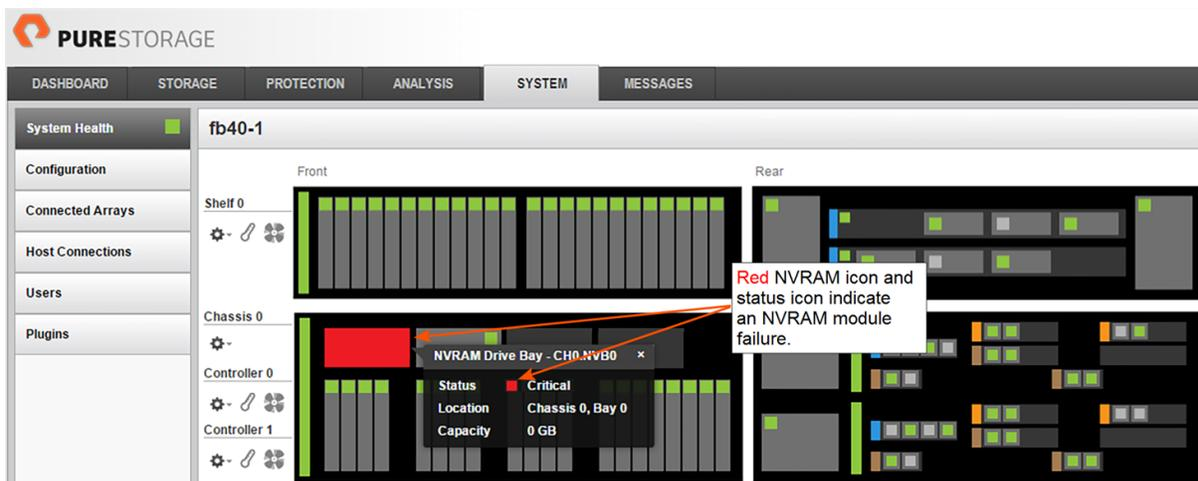

Figure 8-2. GUI Indication of NVRAM Module Failure
- On the Purity GUI, select **System > System Health**. Red NVRAM module and status icons indicate a failure (see Figure 8-2).